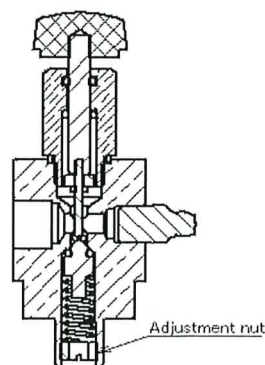

Figure. 5
- ④ The cracking pressure of the built-in check valve in grease checker can be adjusted. Looking at the adjustment nut from the discharge side of the main unit, turning it to the right increases the cracking pressure, and turning it counter-clockwise decreases the cracking pressure. (Figure. 5)